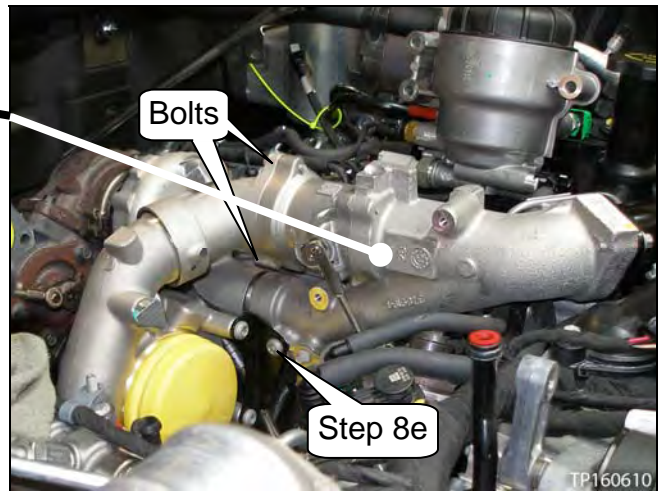

Figure 63
- d. Install two new bolts (see Figure 63).
- e. Install the T45 TORX® bolt finger tight (see Figure 63).